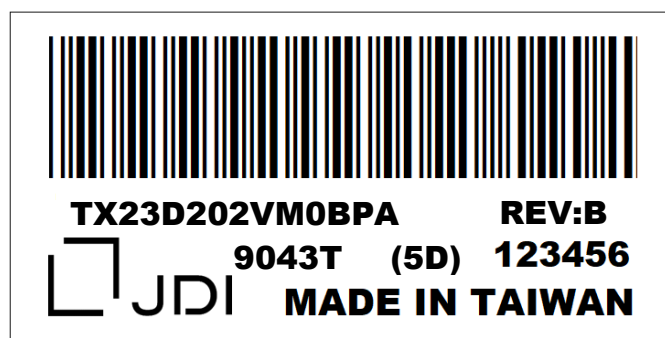

Fig. 14.1
- 1) The lot mark is showing in Fig.14.1. First 4 digits are used to represent production lot, T represented made in Taiwan, and the last 6 digits are the serial number.
- 4) The location of the lot mark is on the back of the display shown in Fig. 14.1.